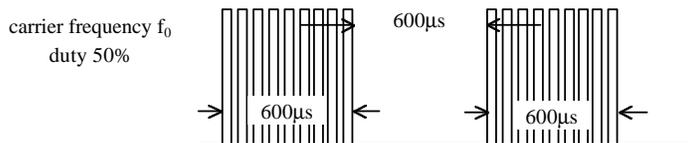

Fig 1.Burst Wave
(3) Standard transmitter ... Burst wave indicated in Fig 1. of standard transmitter